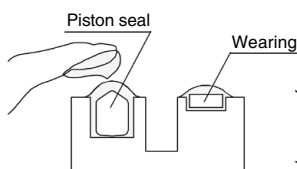
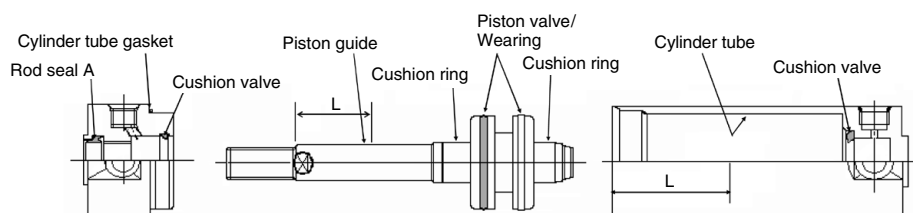

Fig. 7 Piston seal
Fig. 9 Grease application points $L = \frac{\text{STROKE}}{2}$ or 100 mm and more
- ③⑨ Piston seal: Rub grease into the seal groove and outer circumference of the seal. (Fig. 7)
- ③⑩ Cylinder tube gasket: Lightly apply grease.
- Cylinder component parts: Apply grease to each component parts of the cylinder in Figure 9.